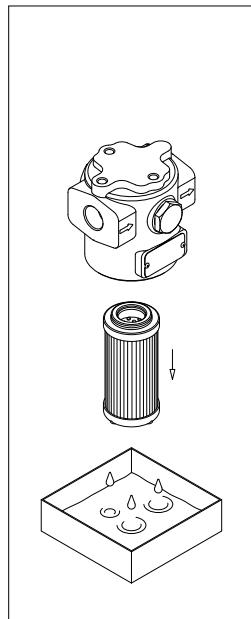

fig. 12
- (Fig. 12) Pull the filter element out